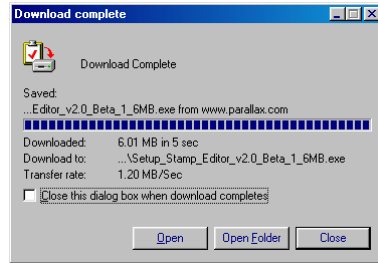

Figure 1-12
- √ If you downloaded the BASIC Stamp Editor Installer from the Internet, click the Open button on the Download Complete window shown in Figure 1-12.